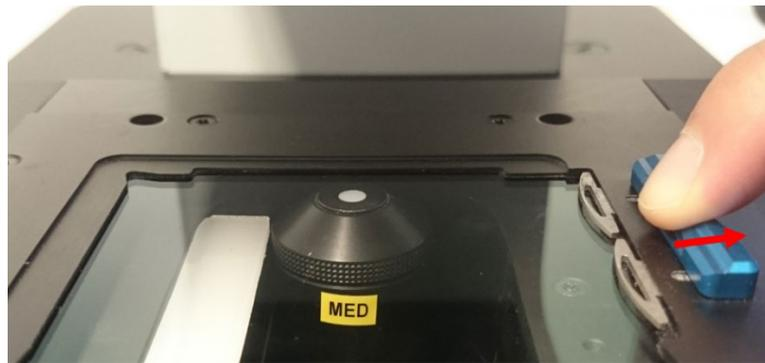

Figure 5-4: Opening the slide mount by moving the handle
- a. Move the slide mount to the right by using the handle (in Figure 5.4). Hold this position while changing slides.